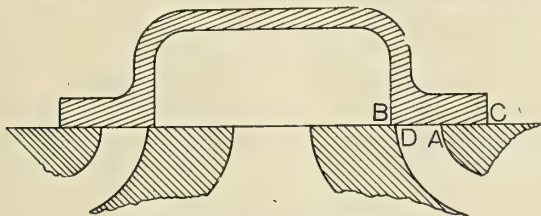

FIG. 84.
**Lap**—When a slide valve is in mid position, as shown in Fig. 84, the amount *AC*, by which the edge of the valve extends beyond the edge of the port on the steam side is called the *steam lap*, and similarly the amount